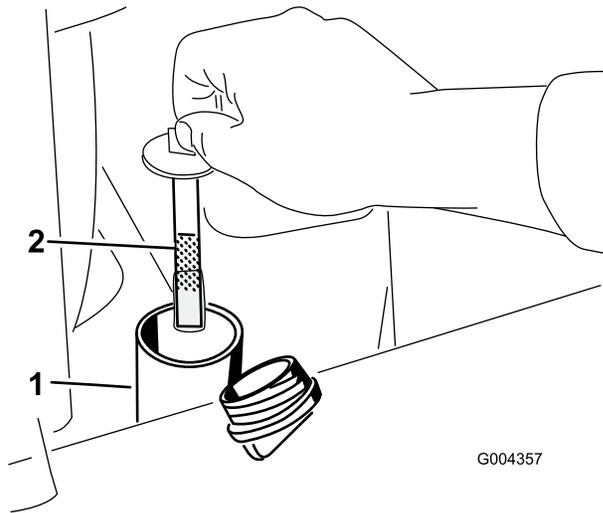

Figure 13
6. Remove the cap from the filler neck and check the fluid level on the dipstick (Figure 13).